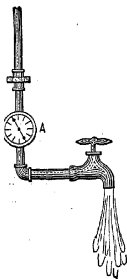

FIG. 7. The water meter *A* measures the flow of water through the pipe.
7. Measurement of Current. Ammeter. If we wish to measure the current of water which is flowing through a pipe, we insert a flowmeter into the pipe as (A) in Fig. 7. The current of water flowing through the pipe also flows through the flowmeter and causes it to indicate the number of gallons per second which pass through it. We can't